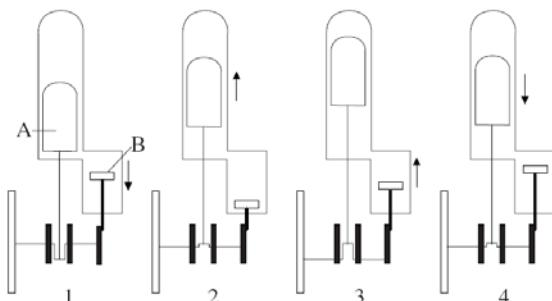

Fig. 1 Functioning principle
- An ideal Stirling cycle has 4 phases (refer to Fig. 1):